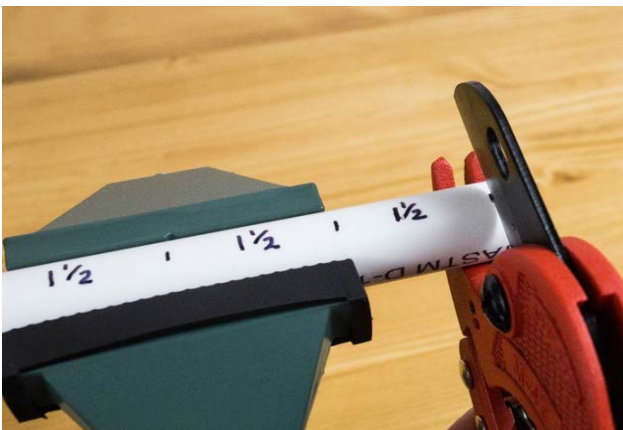

Figure 7
- Position the cutting blade of the pipe cutter on the top of the pipe, aligned with the cutting mark, and cut through the pipe. Try to cut straight across the pipe. (Figure 7)